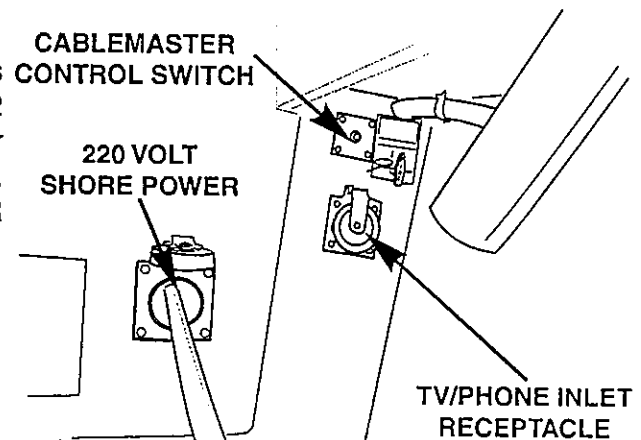

Figure 3-19 Shore Power Inlet
2. See Figure 3-19. Set the CABLEMASTER switch to OUT and reel out the shore power cable.